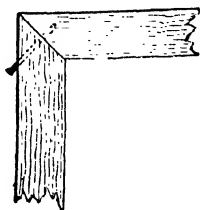

Fig. 493. Securing Mitered Corner of Gilt Slip.
**Securing Gilt Slips in Picture Frames.**—The gilt slips used in picture frames are mitered together in the usual manner; they are then laid flat on a thick board or bench, the latter being perfectly flat and true on the face. One piece is held secure by means of a hand-screw; the return piece is brought to the mitre, a fine hole made with a bradawl, and a pin inserted and driven home (*see* Fig. 493). The frame is moved round, and each mitre is secured in a similar manner until all the mitres are fixed. Glue is sometimes used. When using the hand-screw it is advisable to place between it and the gilt slip a piece of felt or cloth to prevent injury. A quicker way of securing gilt slips to picture frames than that recommended above is first to cut the two shortest slips to fit in the frame, and the other two just long enough to spring into their places. By springing them in thus, they hold together without ghung or nailing. Fitting them after the glass has been put in makes a better finish.